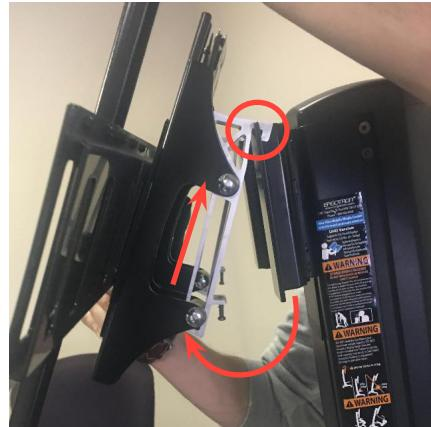

Figure 7 - Removing bracket from monitor stand
- Step 8** Move the bottom of the bracket away from the monitor stand then upward, following the arrows shown in Figure 7, to free the aluminum hooks, circled in red, from the monitor stand.
- Remount bracket to monitor stand by positioning the bottom of bracket outwards to latch the aluminum hooks to the stand as shown in Figure 7